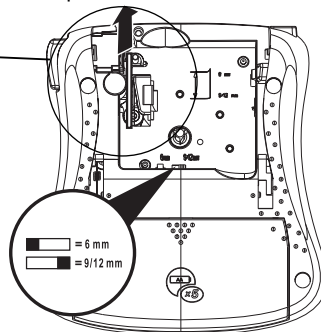

Figure 3
Remove the protective cardboard insert from between the print head and roller. See Figure 3.
2. Set the cassette switch for the size of the tape cassette that you are inserting. See Figure 3. A notch in the cassette will fit over the switch when it is in the correct position.